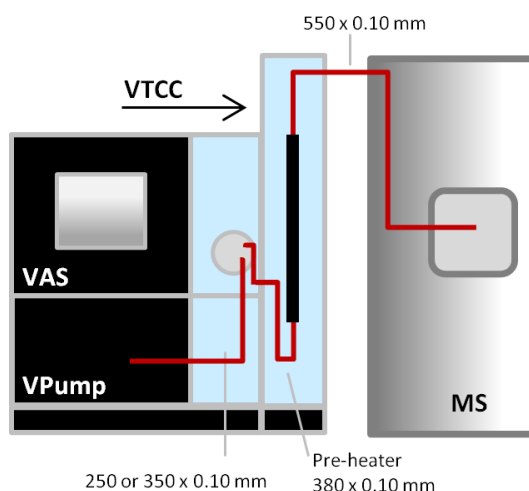

Figure 9. Setup for a Vanquish system as front-end for Orbitrap Exploris/Orbitrap Tribrid/Ion Trap/Triple Quadrupole mass spectrometers.
- 2) Stack the modules as shown below and make all fluidic connections using Viper capillaries, according to Figure 9. The picture illustrates the course of the flexible Viper capillaries in general. Thermo Fisher Scientific recommends installing all capillaries inside the modules as needed. Table 9 provides a detailed overview on the capillaries used and where to find them.
- 2) Stack the modules as shown below and make all fluidic connections using Viper capillaries, according to Figure 13. For further details about the course of the flexible Viper capillaries see Figure 9. Thermo Fisher Scientific recommends installing all capillaries inside the modules as needed. Table 13 provides a detailed overview on the capillaries used and where to find them.